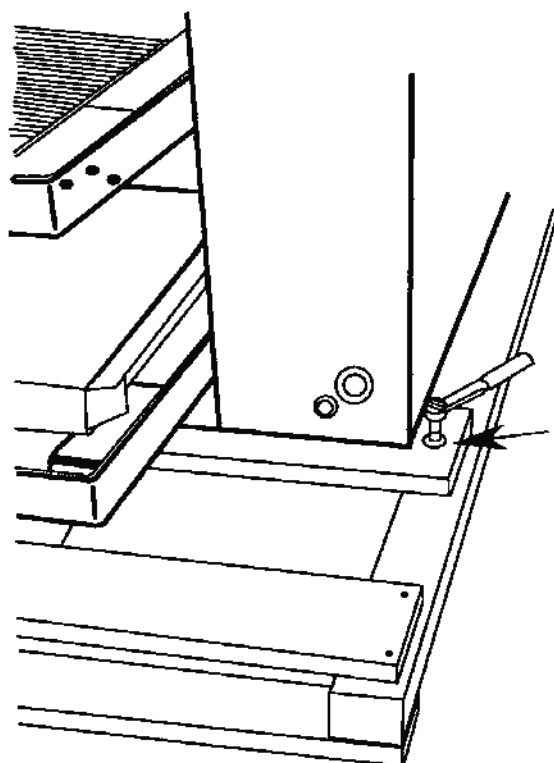

Figure 2-3
2. Each end of the oven is bolted to a wooden cross member. Remove the lag bolts that secure these two wooden cross members to the skid. See Figure 2-3.